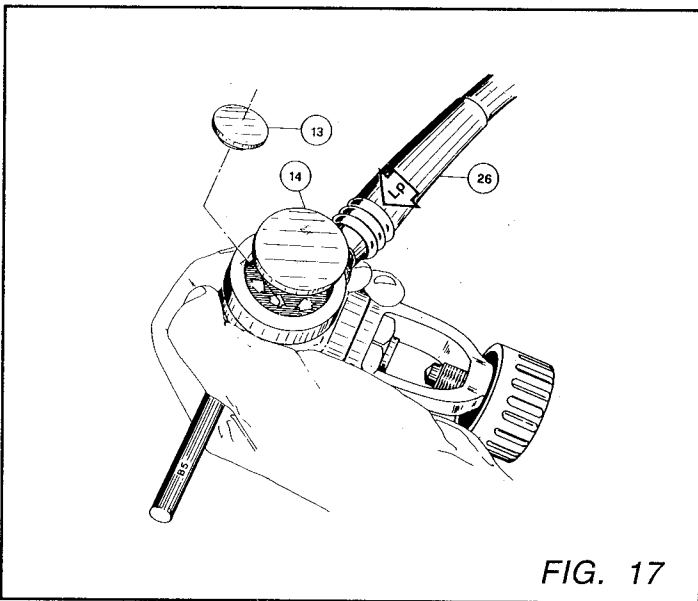

FIG. 17
15. While introducing low pressure air (below 100 psi) through the second stage hose, remove diaphragm (14) and poppet button (13) (Fig. 17).
16. Remove the first stage cover (81) and o-ring (71) from the first stage body using hex wrench (B3).
17. Remove o-ring (71) from first stage cover.
18. Remove second stage hose (26) using wrench (B17).